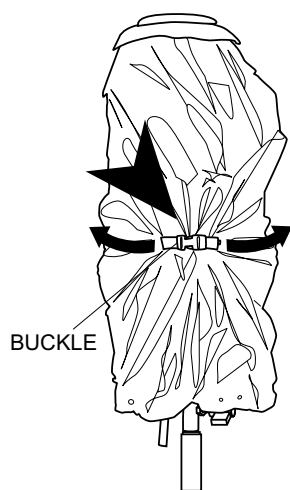

Figure 11. Releasing Buckle
- Release the buckle on the belt holding the balloon together. See Figure 11.